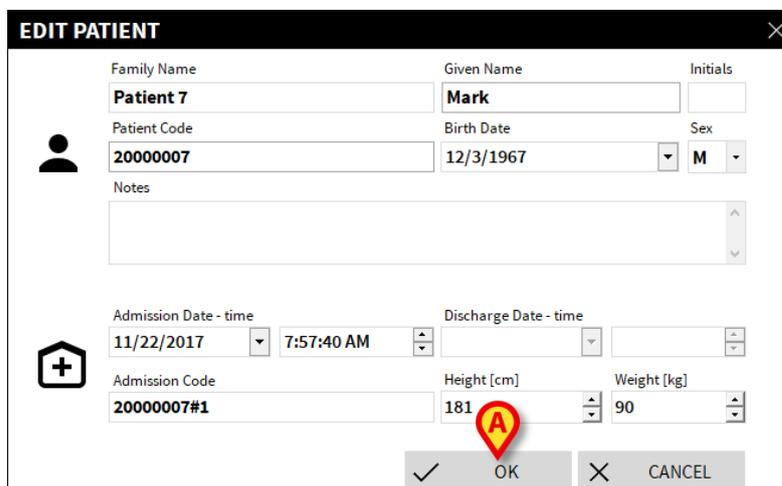

Fig 122
A window containing the patient's data opens (Fig 122).
- Click **Ok** to confirm (Fig 122 A).